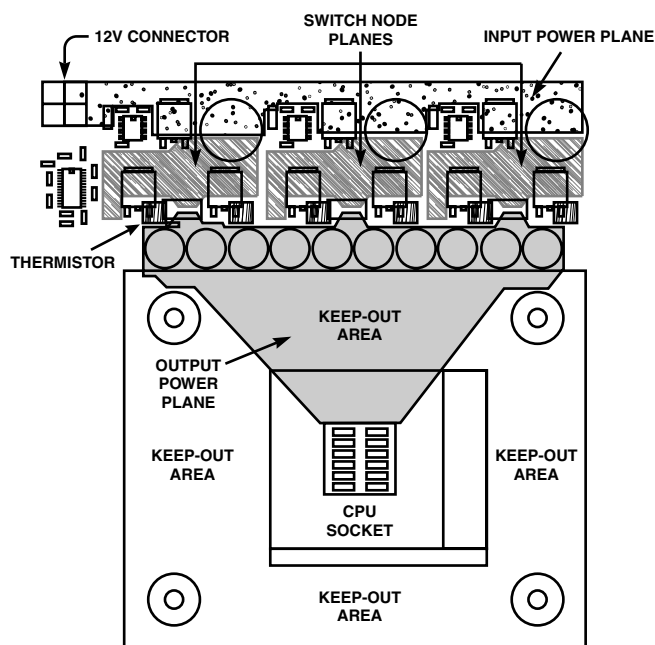

Figure 6. Layout Recommendations
The following guidelines are recommended for optimal performance of a switching regulator in a PC system. Key layout issues are illustrated in Figure 6.
- The components around the ADP3166 should be located close to the controller with short traces. The most important traces to keep short and away from other traces are the FB and CSSUM pins. Refer to Figure 6 for more details on layout for the CSSUM node.